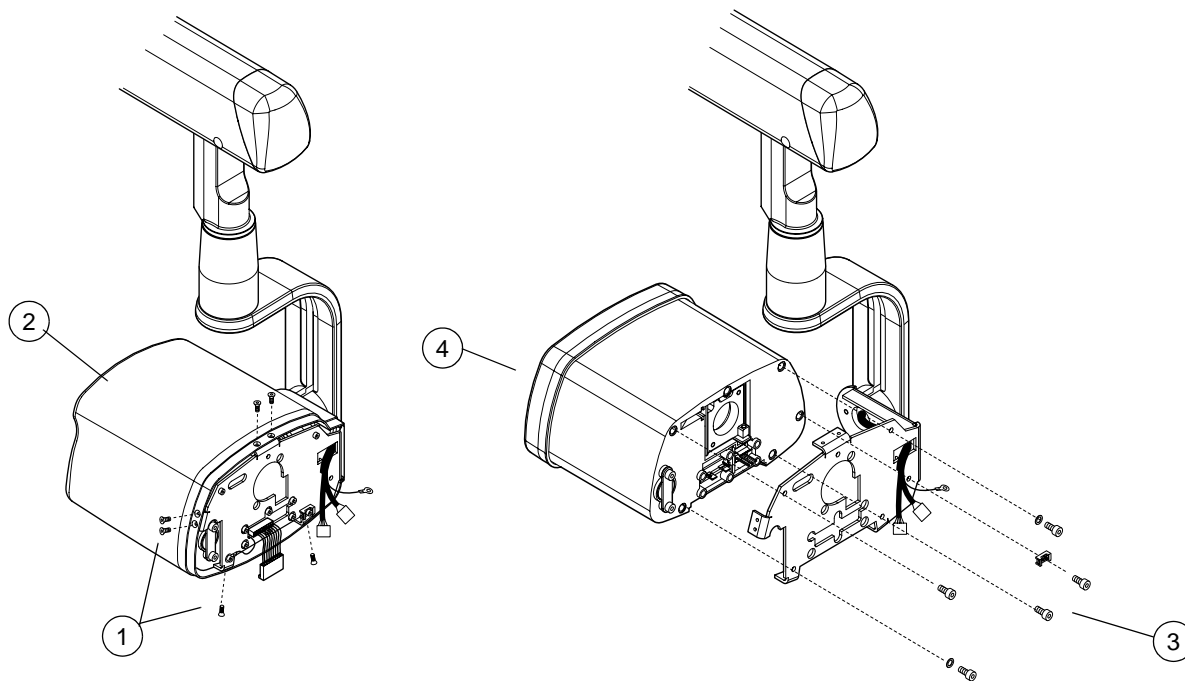

Figure 8
- b) Unscrew the six fastening screws of the tube head cover (Fig. 8, 1) and remove the cover (Fig. 8, 2).
- c) Unscrew the five screws from the support frame (Fig. 8, 3) and remove the tube head (Fig. 8, 4).